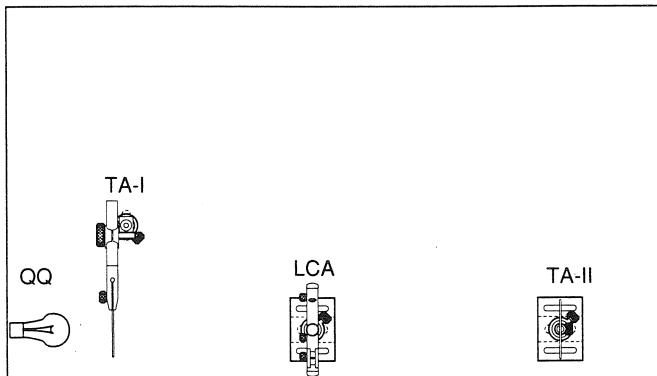

Figure 2-2. Project #2, Positive lens set up.
1. Construct a target (QT) on an index card by ruling a square grid of lines 5 mm apart. This will serve as your object. You can compare the size of the images you generate to this object to determine the magnification. Add some arrows to enable you to determine if the images are upside down or right side up. Mount this in a target assembly (TA-I) close to the edge of the breadboard (Fig. 2-2).